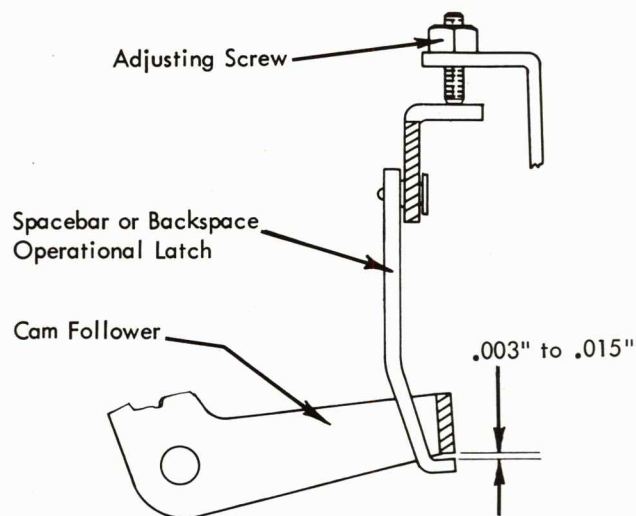
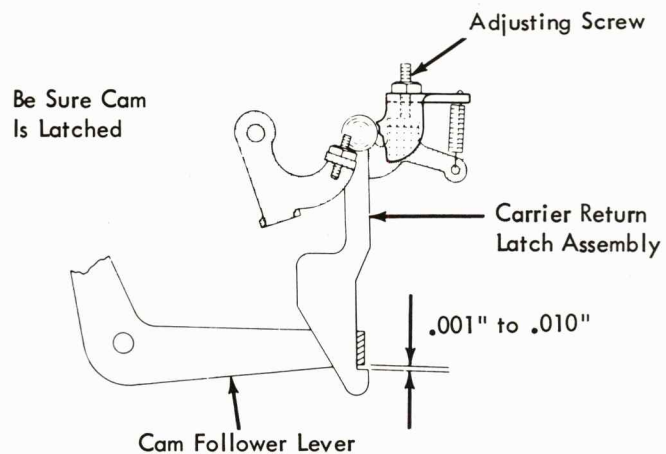

FIGURE 114B. Latch Height
FIGURE 115. Latch Height (11 Inch.)
- Operational Latch Height - The adjustable latch screws (Fig. 114) (eccentric stop on tab latch) for the backspace, spacebar, and tab operational latches should be adjusted so that the latches will pass under the cam follower lever with a clearance of .003" to .015" (Fig. 114B). The carrier return operational latch adjustable stop should be adjusted so that the latch will pass under the cam follower with .003" to .010" clearance (Fig. 115).